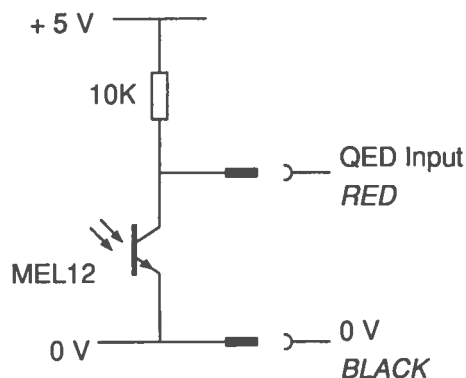
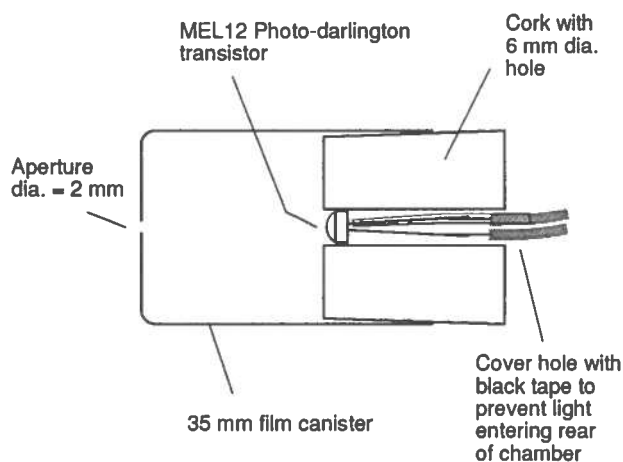

Figure 3 Circuit showing sensor with pull-up resistor to an external supply source.
Figure 4 Minimise ambient lighting by enclosing sensor.
- 3 *Pull-up resistor* : The significant rise times show that the QED's internal circuit is unable to pull its own input to logic high at a suitably fast pace. This condition indicates that an external +5 V power supply should be used. A 10 k Ω dropping resistor is also needed. 10 k Ω has been found by testing to be the most suitable value. With this modification (Fig. 3), input voltage levels on the QED and rise times become :
4 *Ambient lighting* : Generally all types of light gate can be triggered by ambient lighting, particularly direct sunlight or high intensity diffuse daylight. To minimise the effects of ambient sources, the sensor should be mounted in a small, opaque box with a small, circular aperture. Suitable enclosures are small diameter metal tube and a black, 35 mm film canister (Fig. 4).
7 *Test results* : The following data in units of m² are values of *g* made with this light gate (Fig. 3) in its housing (Fig. 4) with a lenticular bulb, 50 mm U-shaped mask and QED.